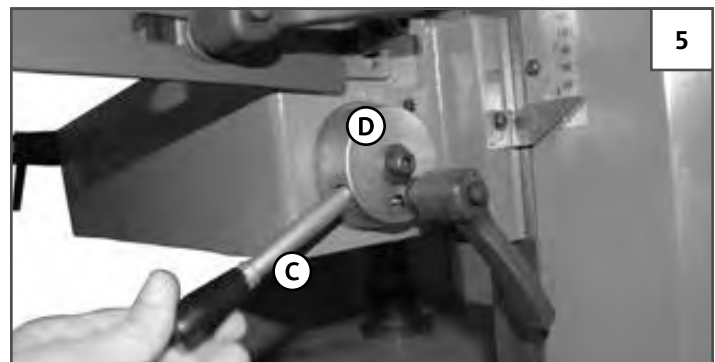

FIGURE 5: INSTALLING TABLE ROLLER ADJUSTMENT LEVER
1. Tighten the lever handle onto the shaft. Then tighten the **LEVER ASSEMBLY (C)** into the **BRACKET (D)**. See Figure 5.